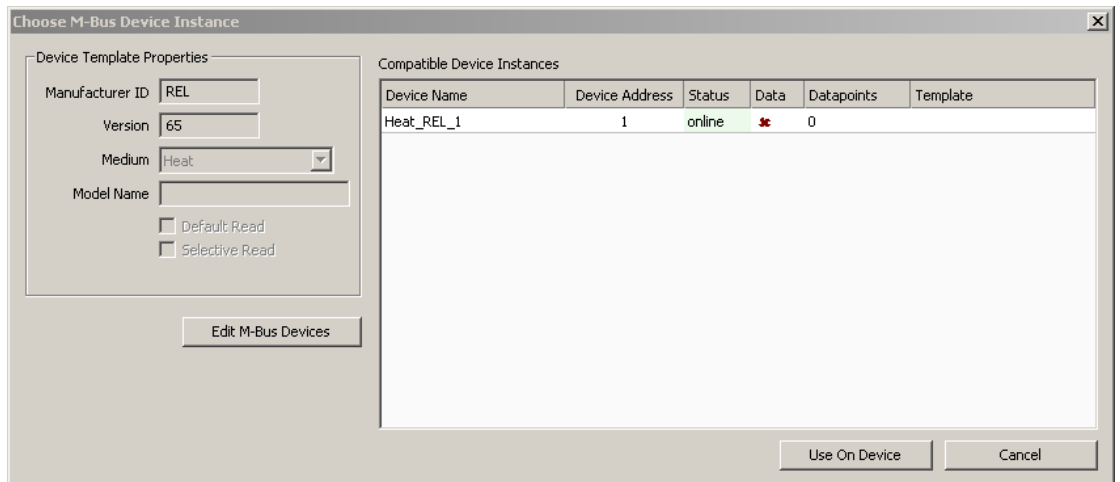

Figure 216: Use on Device dialog.
3. Either press on the **Use on Device** button  or right-click and select **Use on Device**. This opens the **M-Bus Configure Device For Use** dialog shown in Figure 216.